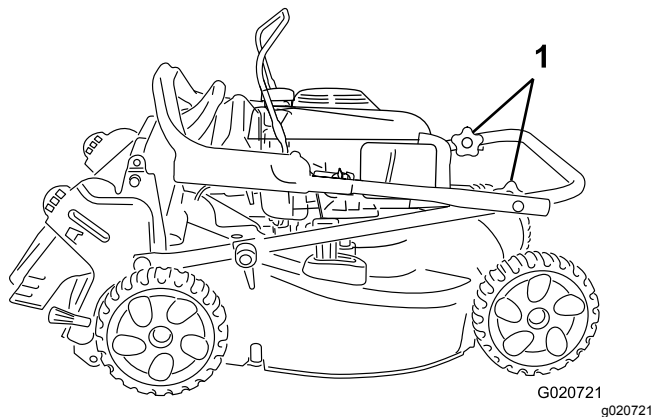

Figure 4
1. Loosen the handle knobs (Figure 4).